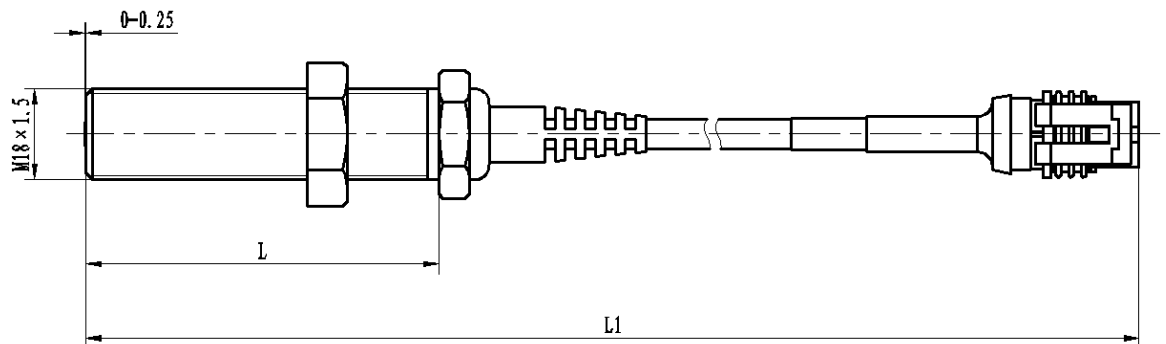

Figure 2.3.1 The outline and installing size of the A07A –WL speed pick-up
2.3.1 The outline and installing size of the A07A –WL series speed pick-up (Figure 2.3.1)